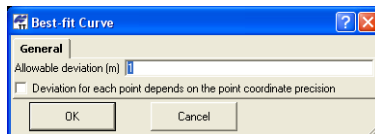

Figure 9-109. he Best-fit Curve Dialog Box
- In the *Best-fit Curve* dialog box, type in the desired deflection of the created curve from the nearest points, or check the checkbox to use the error of coordinates of the given point as an authorized deflection for the curve (Figure 9-109)